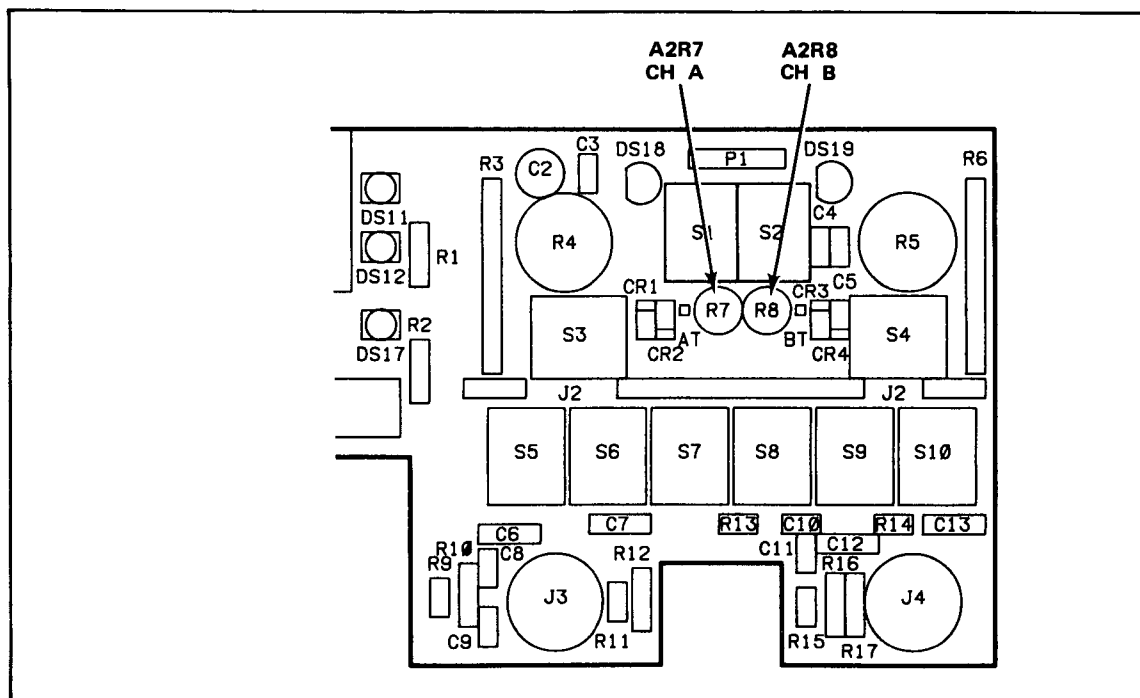

Figure 5-3. Trigger Level Gain Compensation Adjustment Location
- f. Set the HP 5316B rear panel Address switches to address 00 and ADDRESSABLE (ALL switches in the DOWN position). Set the TRIGGER LEVEL/SENSITIVITY switches to SENS (IN). Set the Trigger Level pots fully CCW.
- g. Using a suitable jumper, connect A1J6 pin 5 to the Channel A Input BNC. Do not disconnect the cable from the DC circuitry. Set Channel A to dc coupled (IN).
- l. Adjust A2R7 for $0.000V \pm 0.001$ (zero volts differential between A4U2 pins 7 and 8). See *Figure 5-3* for adjustment location.
- n. Move the jumper to connect A1J6 pin 4 to the Channel B Input BNC. Set Channel B to dc coupling (IN).
- q. Adjust A2R8 for $0.000V \pm 0.001$ (zero volts differential between A4U2 pin 9 and 10). See *Figure 5-3* for adjustment location.